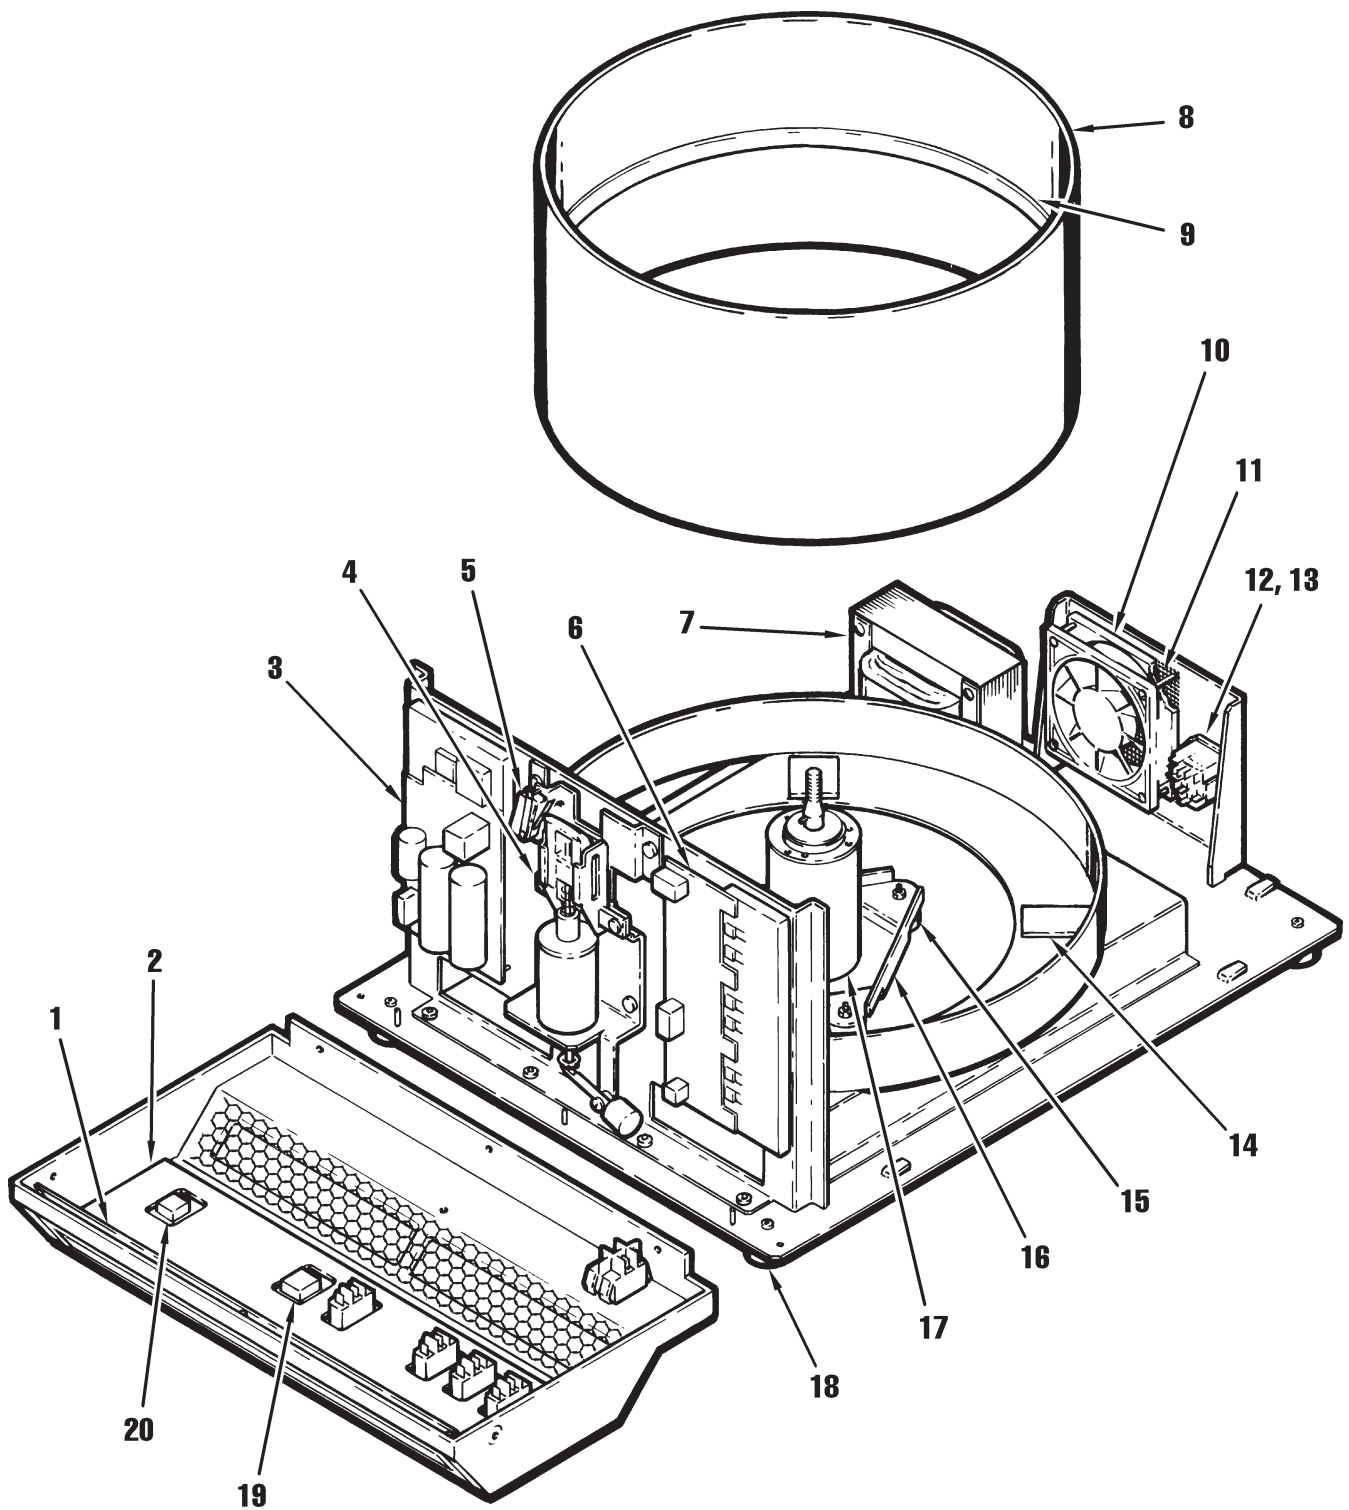

Figure 8-2. TC6® Chassis Assembly
(keyed to Figure 8-2)**
* A dash (-) indicates items not referenced in figure 8-2.